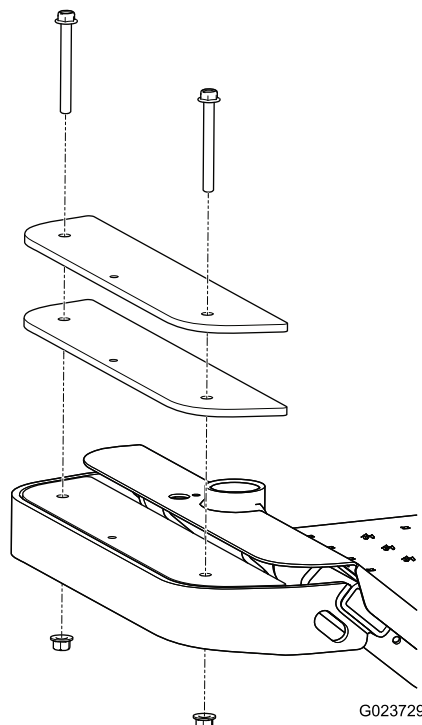

Figure 12
1. Remove the 2 bolts and 2 nuts securing the existing weights on the front of the machine (Figure 12).